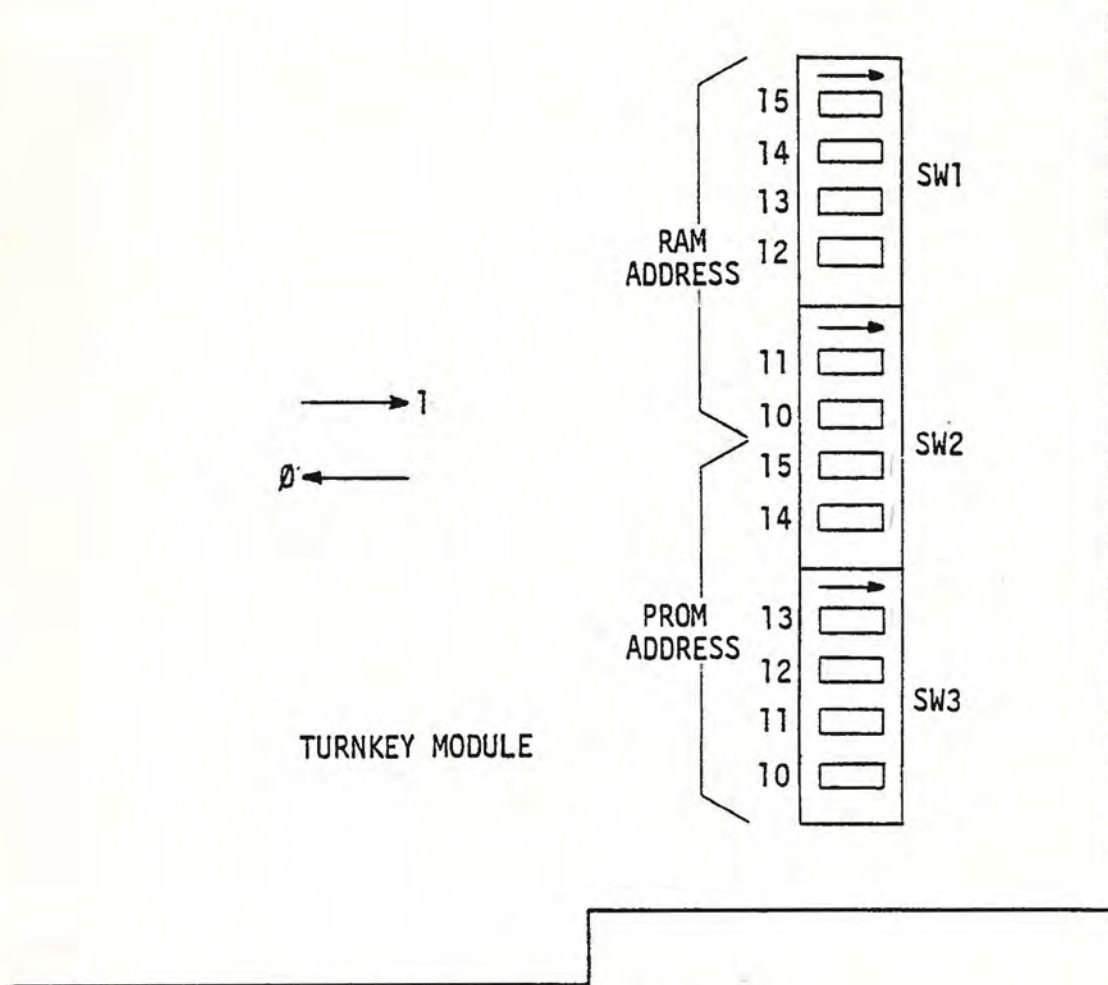

Figure 3-1
A. Memory. The Turnkey Module contains 1K bytes each of RAM and PROM. The starting address of each 1K block is selected by 6 switches on the Turnkey Module board (Figure 3-1). In operation, the most significant 6 bits of the incoming address are compared with the settings of the switches. If they match, the remaining 10 bits are decoded to select the proper byte in that block.